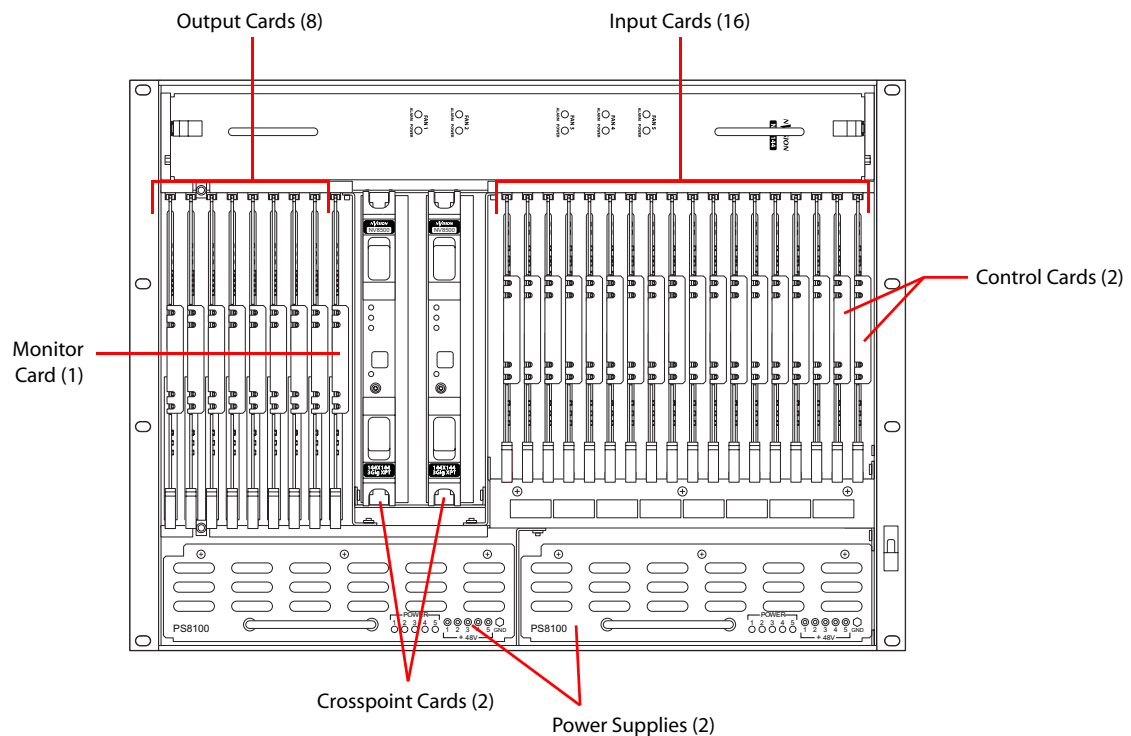

Figure 2-21. NV8144 with Door Removed (Front View)
- 1 Locate the monitor backplane located on the rear of the router frame, as shown in Figure 2-21.